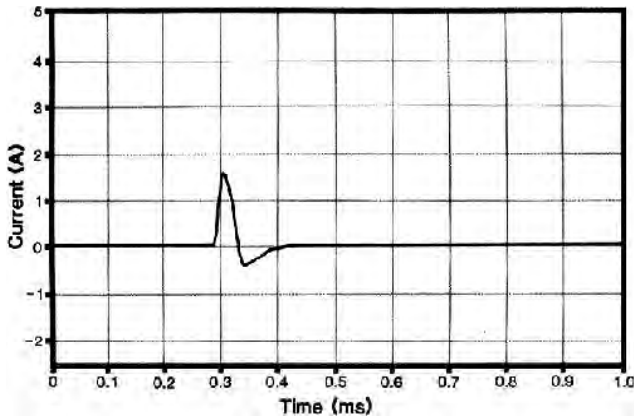

FIGURE 9. Dry Condition Current Output.
**Shock Intensity:** Current output for dry and wet conditions are shown in FIGURES 9 and 10.